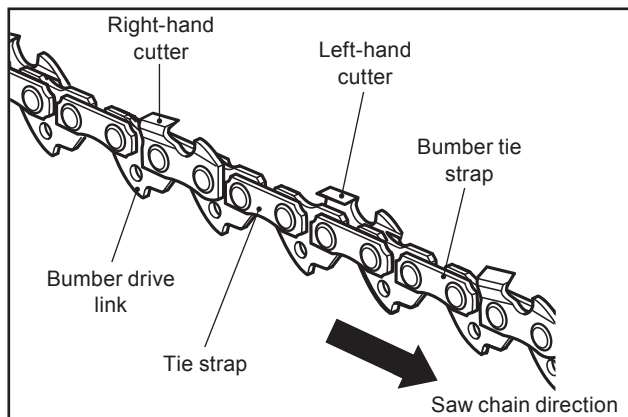

Fig. 40
2. The height difference between the tooth and the ridge is the cutting depth. When sharpening the saw chain (8) you have to consider the following points (Fig. 40).